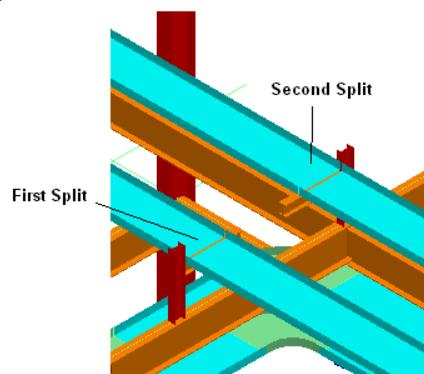

Figure 6: Second Split in a Cable Tray
6. Repeat steps 4-7 to place a second split on the second cable tray, as shown in Figure 6.